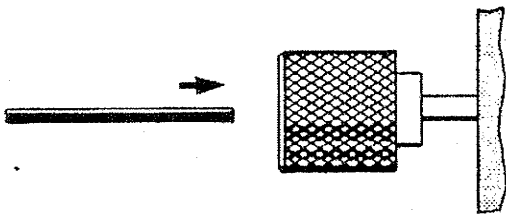

Figure 11 Insert Gas Injection Needle
3. Push the injection needle through the fitting and into the shroud cavity. Do not contact the radiation shield or the sample holder. See Figure 11.